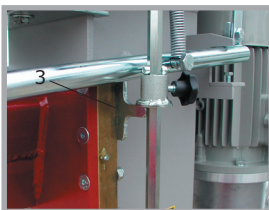

Fig. 3
If you move the upper stop-bush (3) down, the ram will no longer raise all the way up and will stop as it reaches the position of the upper stop-bush. (Fig. 3).